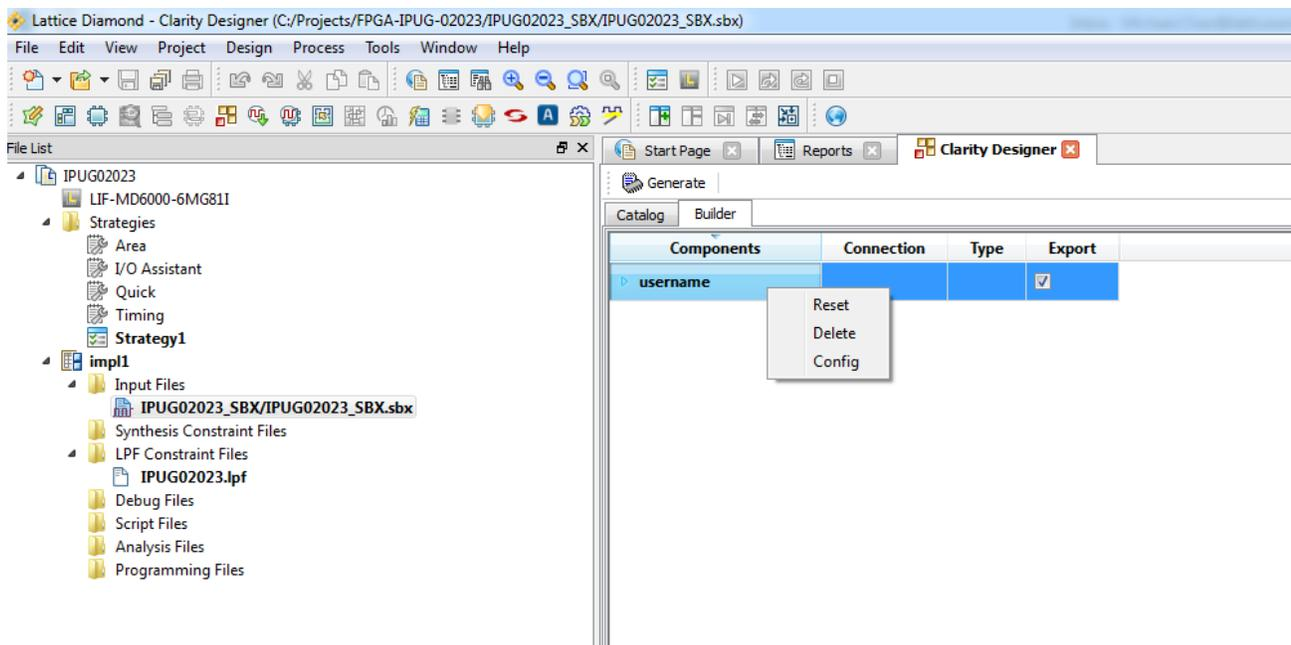

Figure 4.10. IP Regeneration in Clarity Designer
1. In the **Builder** tab, right-click the IP instance to be regenerated and select **Config** from the menu as shown in Figure 4.10.